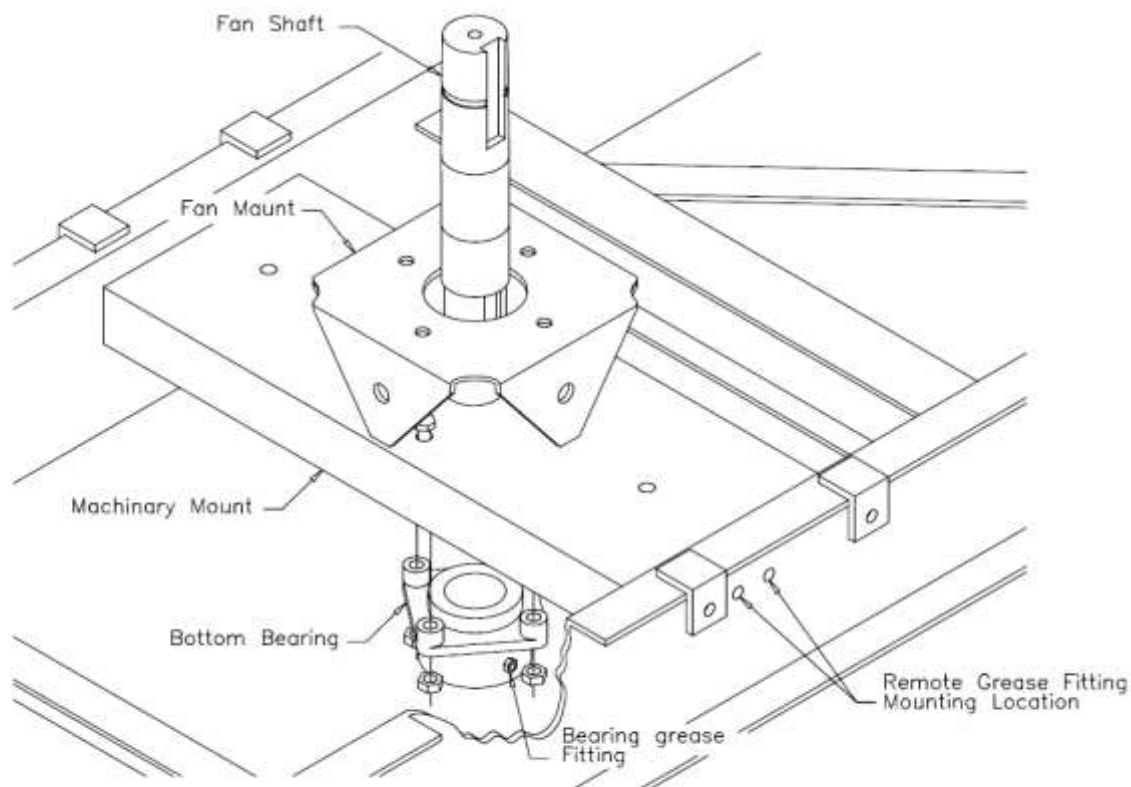

FIG.C1-BOTTOM BEARING AND FAN SHAFT
1. Attach bottom bearing, with grease connection facing the machinery mount side channel to which remote grease fittings will be installed. Install fan shaft, tapered end up, through the top of fan mount to the bottom bearing. Fan shaft shoulder should rest on bearing race. See Fig.C1.